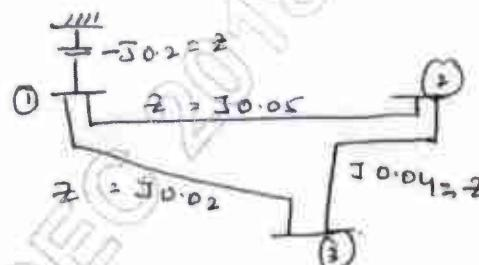

Fig.Q1(b)
b. For the power system shown in Fig.Q1(b), obtain Y_{bus} using singular transformation. (10 Marks)